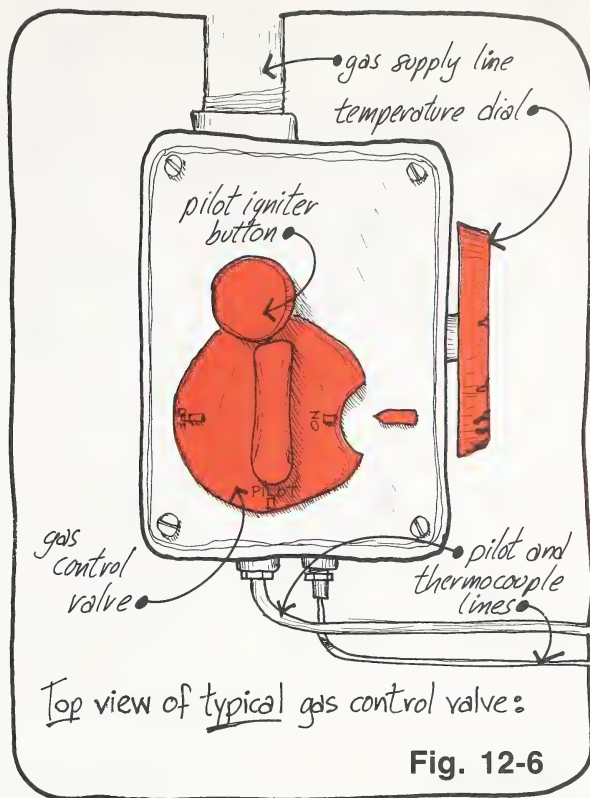

Fig. 12-6
- Make sure the gas control valve (Figure 12-6) has been in the OFF position for at least five minutes.